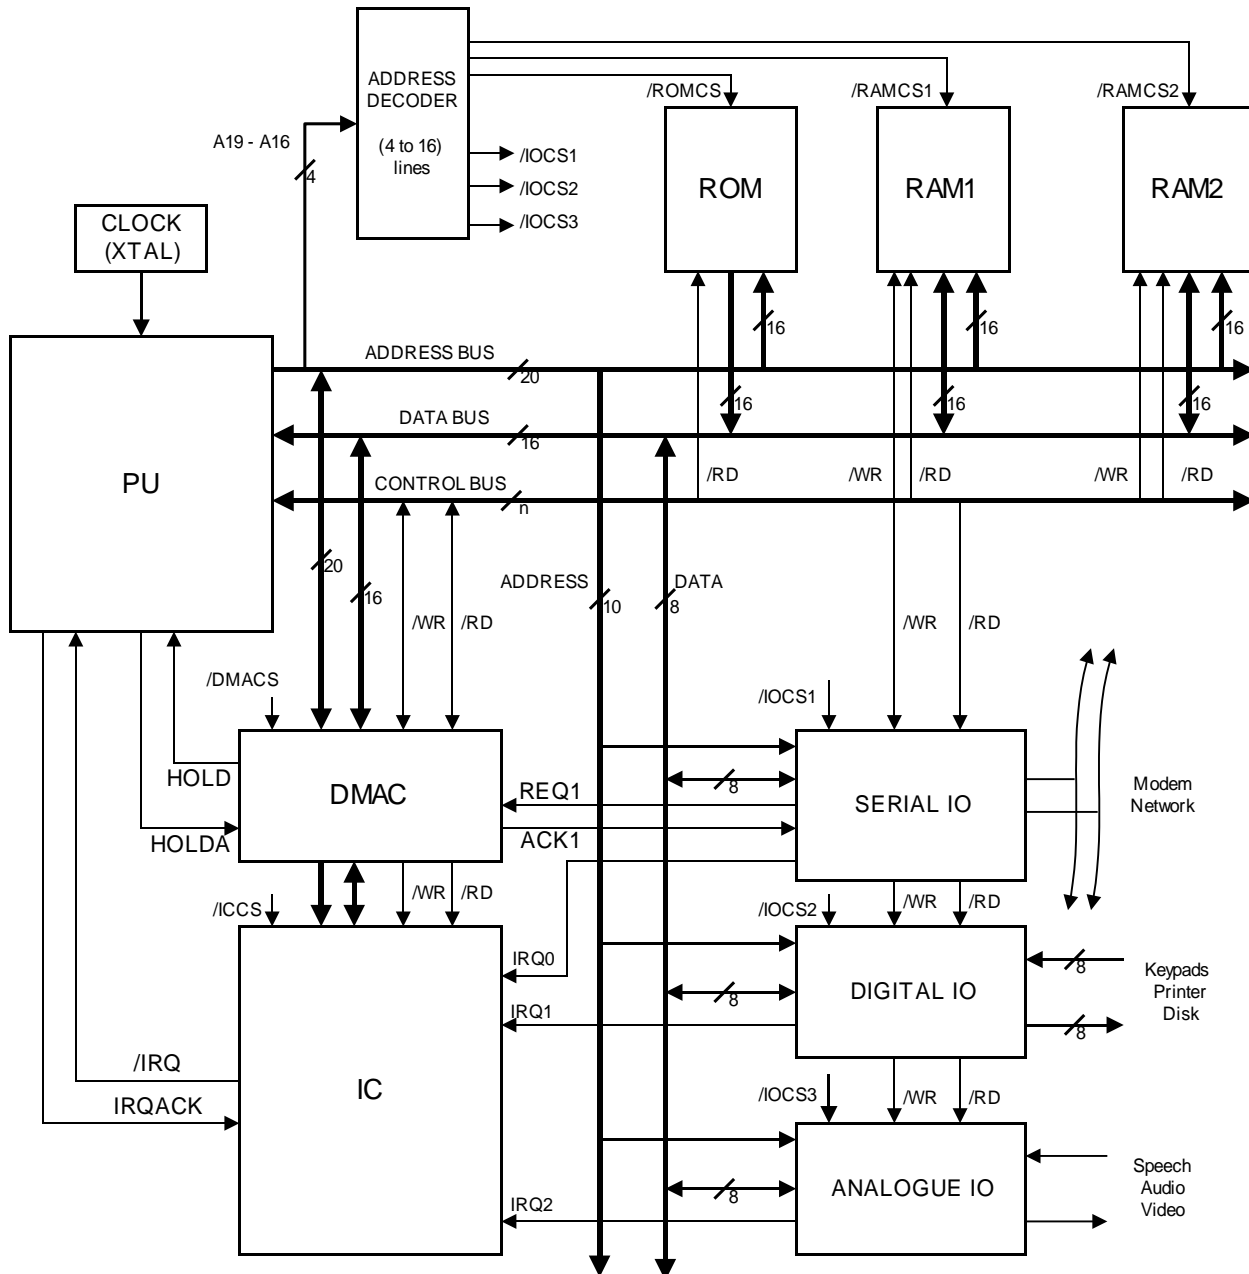

Figure 1. Processor System Reference Diagram - showing Memory and I/O Subsystems
The computer system architecture shown in Figure 1 presents a detailed view of a generic processor based system with the MEMORY and INPUT/OUTPUT blocks clearly separated into their respective subsystems. This diagram provides sufficient detail to support an in-depth study of I/O systems and data transfer techniques. **It will be used as the reference diagram throughout the notes and tutorials.**
The memory sub-system comprises a mixture of ROM and RAM chips and the Input-Output subsystem shows some common Digital and Analogue I/O interfaces. Also shown in Figure 1 is the detailed connection of the device Chip Select (/CS) control signals that, when used in conjunction with the ADDRESS DECODER, ensures that the individual memory and I/O devices are uniquely addressed. This important mechanism avoids any possibility of data bus contention - this issue is discussed further in the next section. To avoid cluttering the diagram the /IOCSx signal connections are broken but consider them as being physically connected in the same manner as the ROM and RAM chip select signals.
Figure 1 also shows two I/O Controller devices, an Interrupt Controller (IC) and a Direct Memory Access Controller (DMAC). These devices provide efficient mechanisms for implementing I/O systems and are discussed more fully in later sections.
Memory systems in PCs and Embedded Systems are now required to support large amounts of memory and numerous I/O interfaces. Typically, memory sizes 0.1- 8GB and there is an ever increasing variety of peripheral devices to be supported, for example, USB, mouse, keyboard, disk drives, networks audio and video devices. As Figure 1 shows all these devices share the same address, data and control pins and if this arrangement is to work then certain operating conditions must be observed :
- **Only one device should be able to drive the data bus at any time.** All devices in a bus connected system share a common data bus and if more than one device attempts to write data to the bus at the same time a collision of 1's and 0's occurs on the data pins. This situation is known as a '**bus contention**' and it results in the corruption of data on the bus. Bus contentions may also result in damage to the devices that are attempting to simultaneously drive the bus. Contention issues are avoided by ensuring that when a device is not addressed it is effectively disconnected from the data bus. This is the function of the device Chip-Select (/CS) control signal which connects and disconnects devices from the data bus using TRI-STATE operation. Simply put this means that all non-selected devices are effectively powered-down and disconnected from the data bus. The function of the ADDRESS DECODER block, in Figure 1, to decode the address bus signals so that only one chip select signal is active at any time, ensuring that bus contentions are avoided.
- **Every device connected to the bus system must be uniquely addressed.** The purpose of the address decoding circuit in Figure 1 is to ensure that only one device is active at any time. For any combination of address inputs only one device chip select output becomes active and only one memory or I/O device is enabled. The address decoding circuit effectively divides the available address space into blocks so that each device occupies a specific range of addresses.
Device addressing in Figure 1 has now become a little more complicated but it does demonstrate more clearly how the addressing system actually works. When the processor puts an address on the address bus the higher order address signals (A19 – A16) are used to enable a single device, the lower-order address (A15 – A0) signals are used to select the specific memory location or I/O register within the device. Note that addresses issued by the processor can address memory location or I/O devices the address decoder selects which block of memory or I/O is selected for data transfer.
To read the data from a device the processor outputs an address value on the address bus and asserts the memory read signal(/RD). The address decoding circuit responds to this by activating one of its chip select outputs (/CSx) and a short time later, allowing for the memory or I/O device access time, the selected device drives a data onto the data bus. The processor then clocks the data from the data bus into an internal register to complete the read cycle. Consider, as an example, reading data from the Digital I/O port in Figure 1. The sequence of events would be: the processor outputs the address of the digital I/O port and asserts the memory read signal(/RD); the address decoding circuit responds by activating /IOCS2, and a short time later, allowing for the device access time, the digital I/O device drives a data on to the data bus; finally the processor clocks the data from the data bus into an internal register to complete the read cycle.